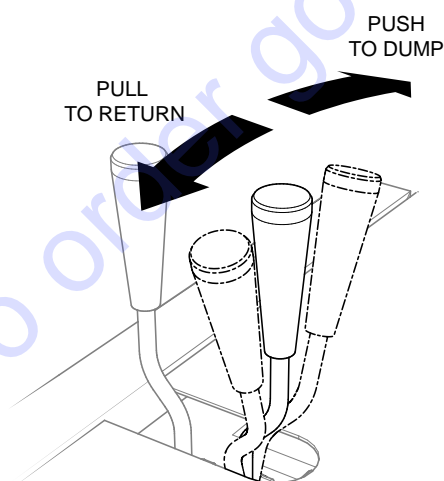

**Figure 23. Hydraulic Paddle Lever**
1. On the hydraulic valve, push lever inward (Figure 23) for clockwise mixing rotation of blades.